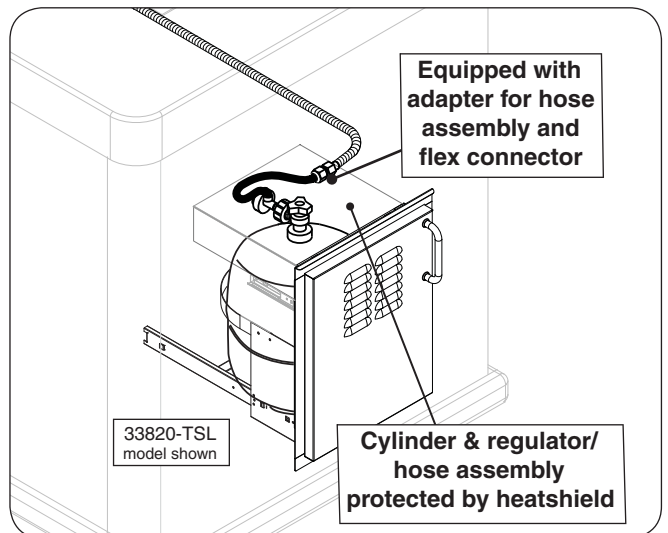

Fig. 12-3 Optional RHP door w/ tank tray
- **RHP offers a propane tank door with tank tray to meet the cylinder install requirements. See Fig. 12-3.**